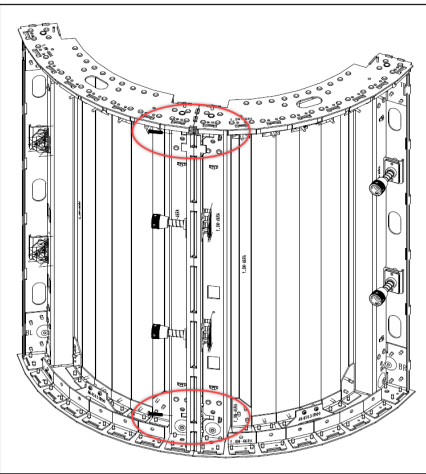

Figure 5: Install M5 Screws through Side Perimeter
6. Install two M5 screws (Daktronics part number HC-3802911) through the side perimeter of the first panel and through the second adjacent panel. Secure with an M5 nut (HC-1959) in the adjacent panel. Refer to **Figure 5**.